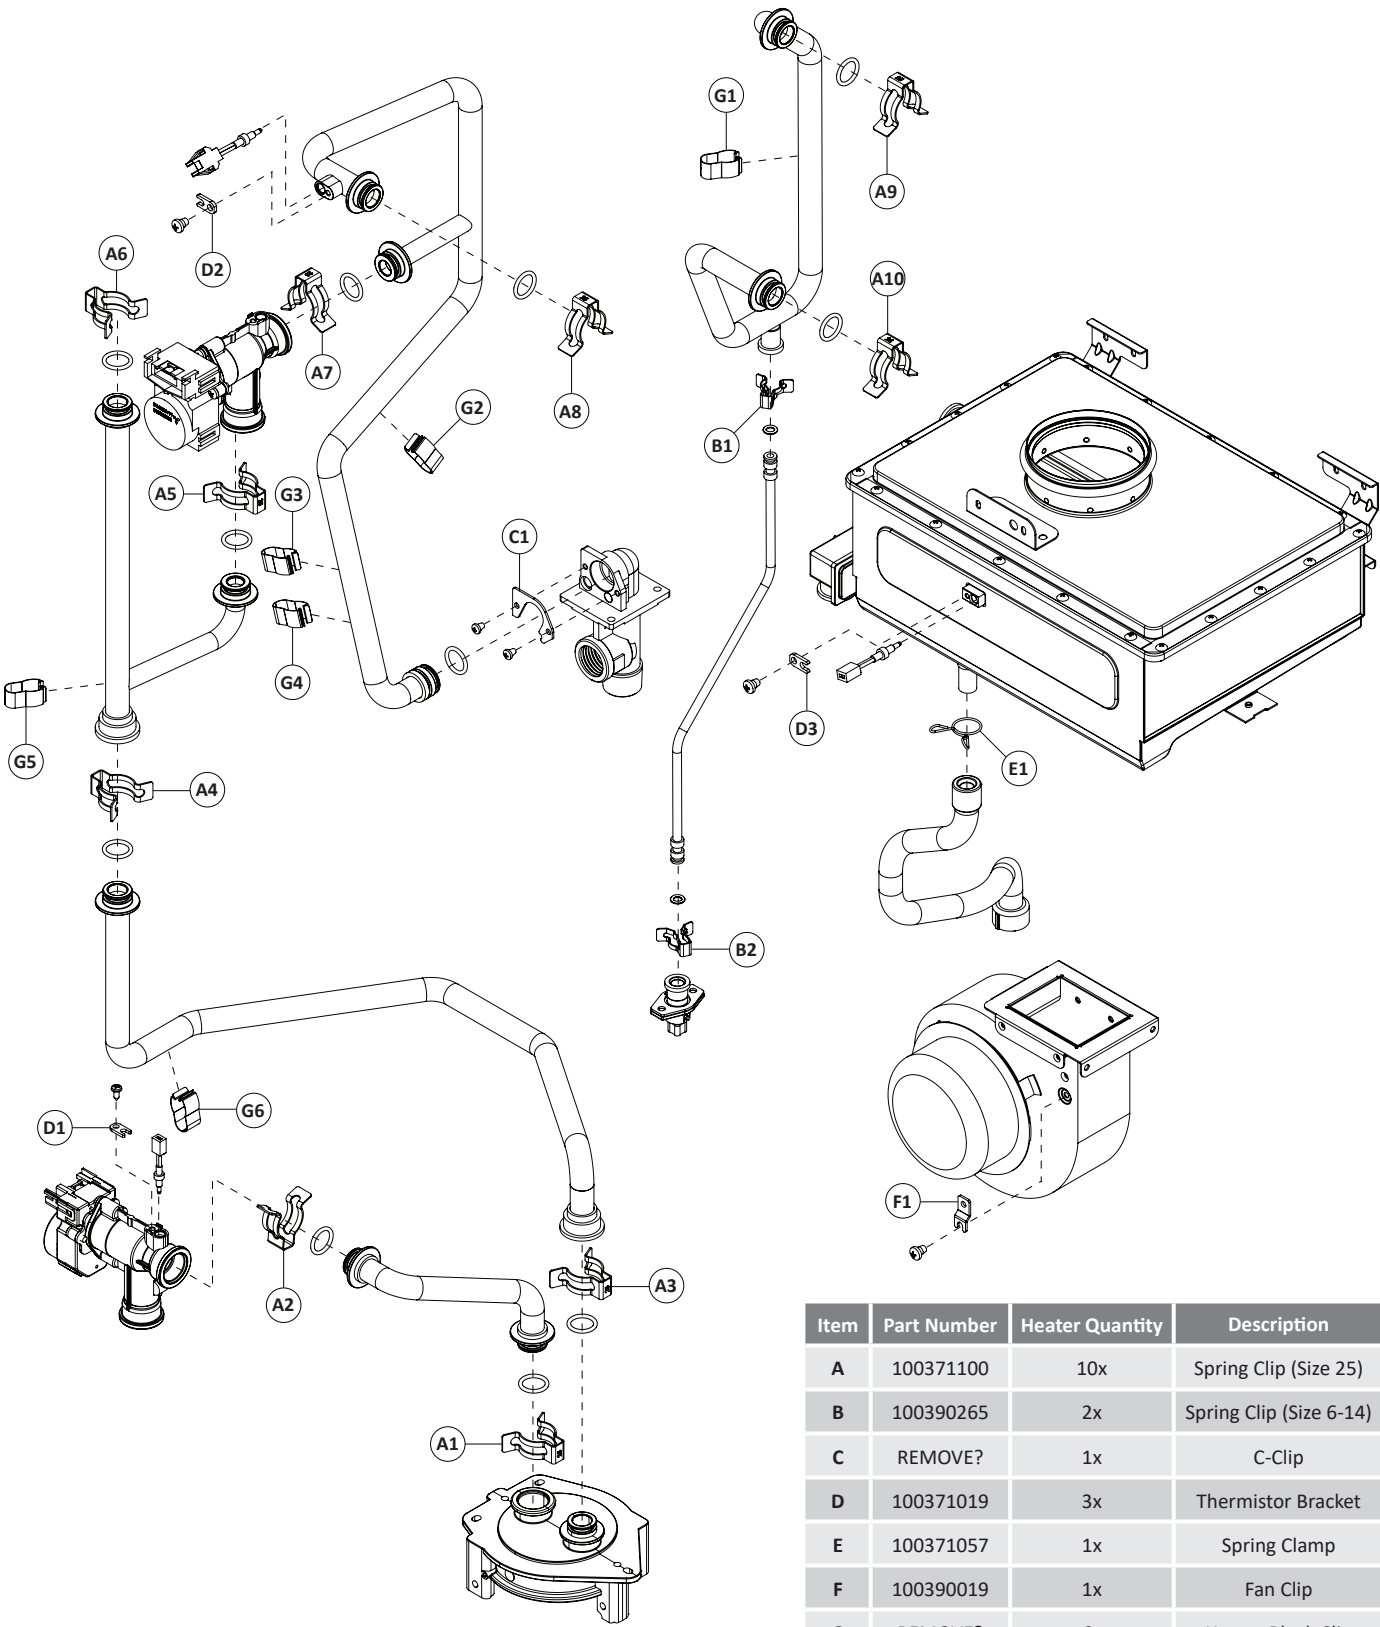

Figure 213 - Fastener reference guide
**NOTICE:** Use the parts diagram (Figure 213) and the table provided on page 113 to reference the location of fasteners provided in the kit.